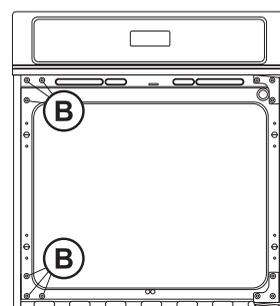

Figure 11
3.2.5. Replace the six (6) screws and washers removed on step 1 on the left side of the oven frame (See B, Figure 11).